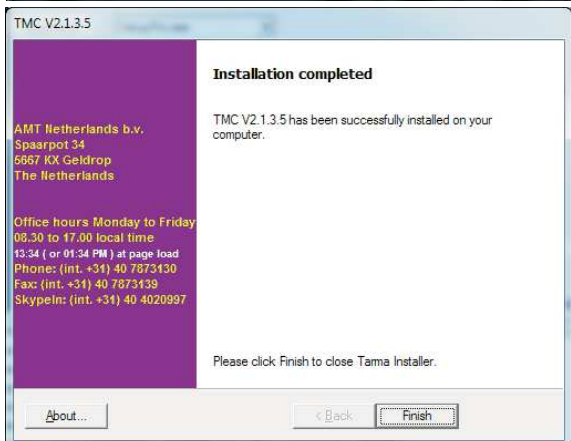

figure 8.4
10. After a correct installation screen figure 8.4 will appear.